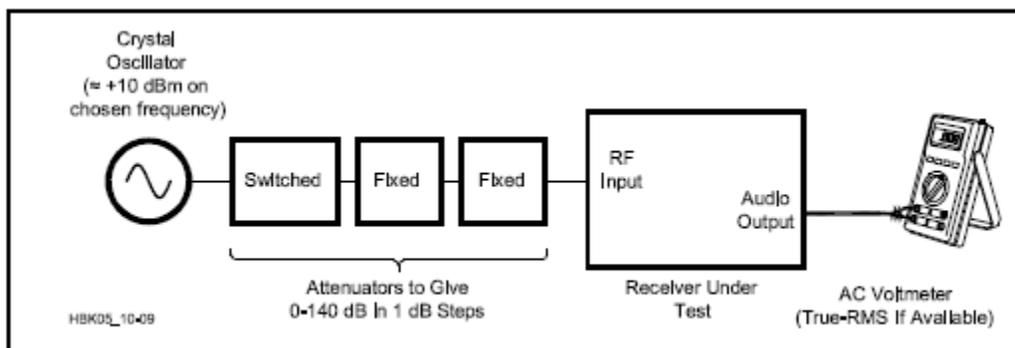

Figure 1 — Setup for measuring receiver-oscillator phase noise.
It's possible to make respectable receiver-oscillator phase-noise measurements with less than \$100 of parts and a multimeter. Although it's time-consuming, the technique is much more in keeping with the amateur spirit than using a \$100k system! An ordinary multimeter will produce acceptable results; a meter capable of indicating “true RMS” ac voltages is preferable because it can give correct readings on sine waves *and* noise. **Figure 1** shows the setup. Measurements can only be made around the frequency of the crystal oscillator, so if more than one band is to be tested, crystals must be changed, or else a set of appropriate oscillators is needed. The oscillator should produce about +10 dBm (10 mW) and be *very* well shielded. (To this end, it's advisable to build the oscillator into a die-cast box and power it from internal batteries. A noticeable shielding improvement results even from avoiding the use of an external power switch; a reed-relay element inside the box can be positioned to connect the battery when a small permanent magnet is placed against a marked place outside the box.)
1. Connect the equipment as shown in Figure 1, but with the crystal oscillator off. Set the step attenuator to maximum attenuation. Set the receiver for SSB or CW reception with its narrowest available IF filter selected. Switch out any internal preamplifiers or RF attenuators. Select AGC off, maximum AF and RF gain. It may be necessary to reduce the AF gain to ensure the audio amplifier is at least 10 dB below its clipping point. The ac voltmeter or an oscilloscope on the AF output can be used to monitor this.